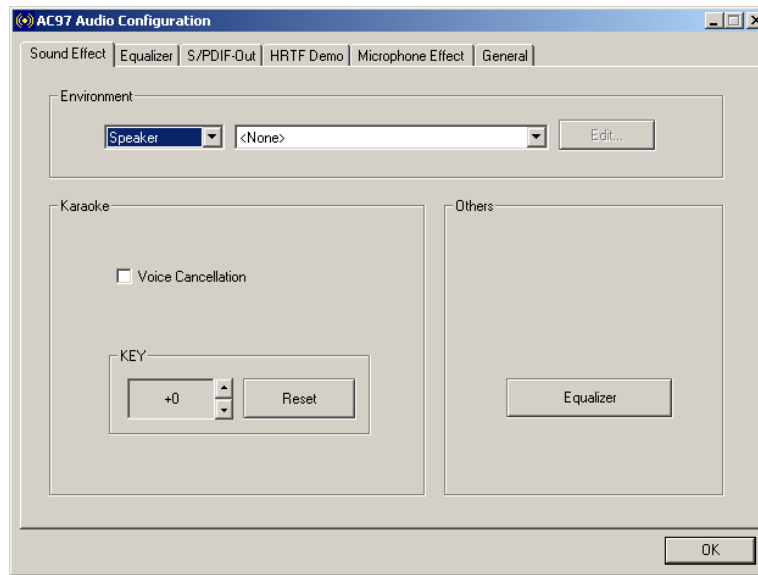

Figure H-3: Sound Effects Manager (ALC655)
Step 3: The sound effect manager appears (**Figure H-3**).
The Sound Effect Manager shown in **Figure H-3** is for the Realtek ALC655 audio Codec. Different Codecs may have different sound manager appearances.
The **Sound Effects Manager** enables configuration of the items listed below. To configure these items click the corresponding menu tab in the **Sound Effects Manager** (Figure H-3).